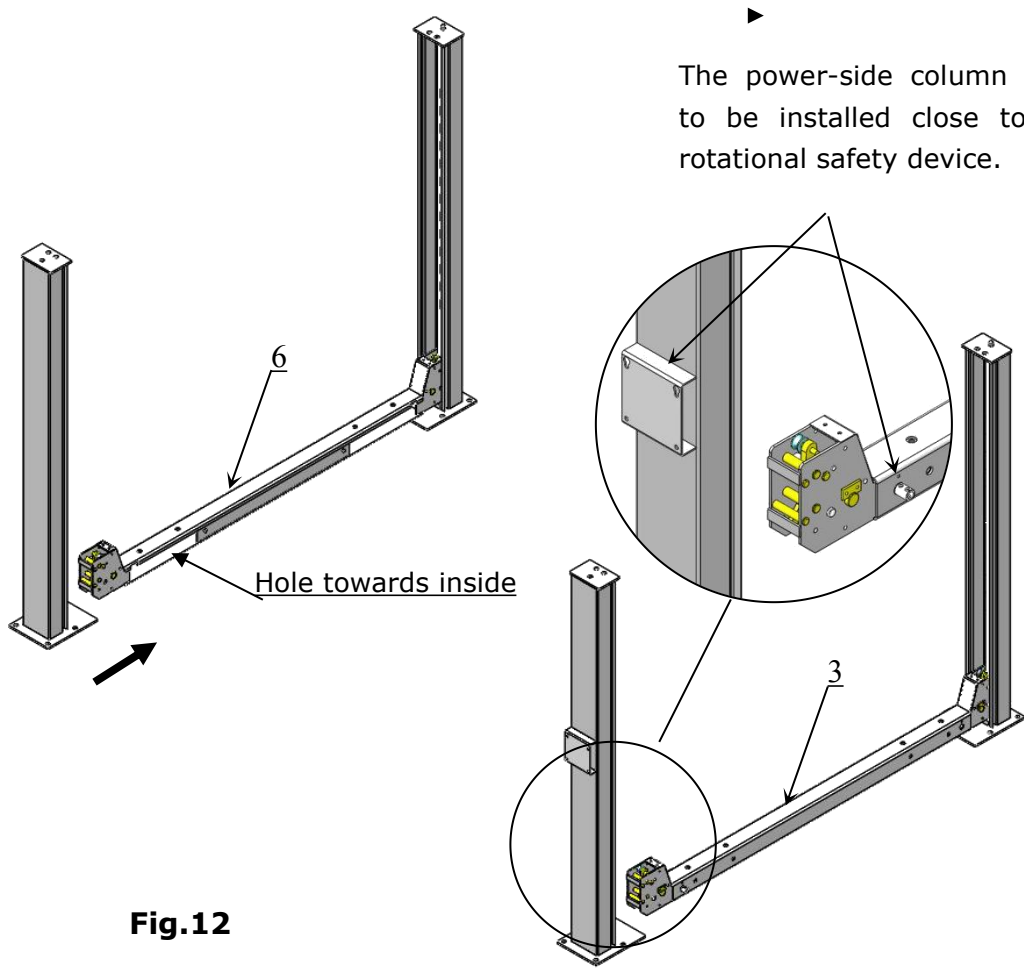

Fig.12
C. Install cross beams (Note that Hole of the beam towards inside and the side with the rotating component of the safety mechanism should be the same side as the column where the power unit is installed. See Fig.12 & 13)